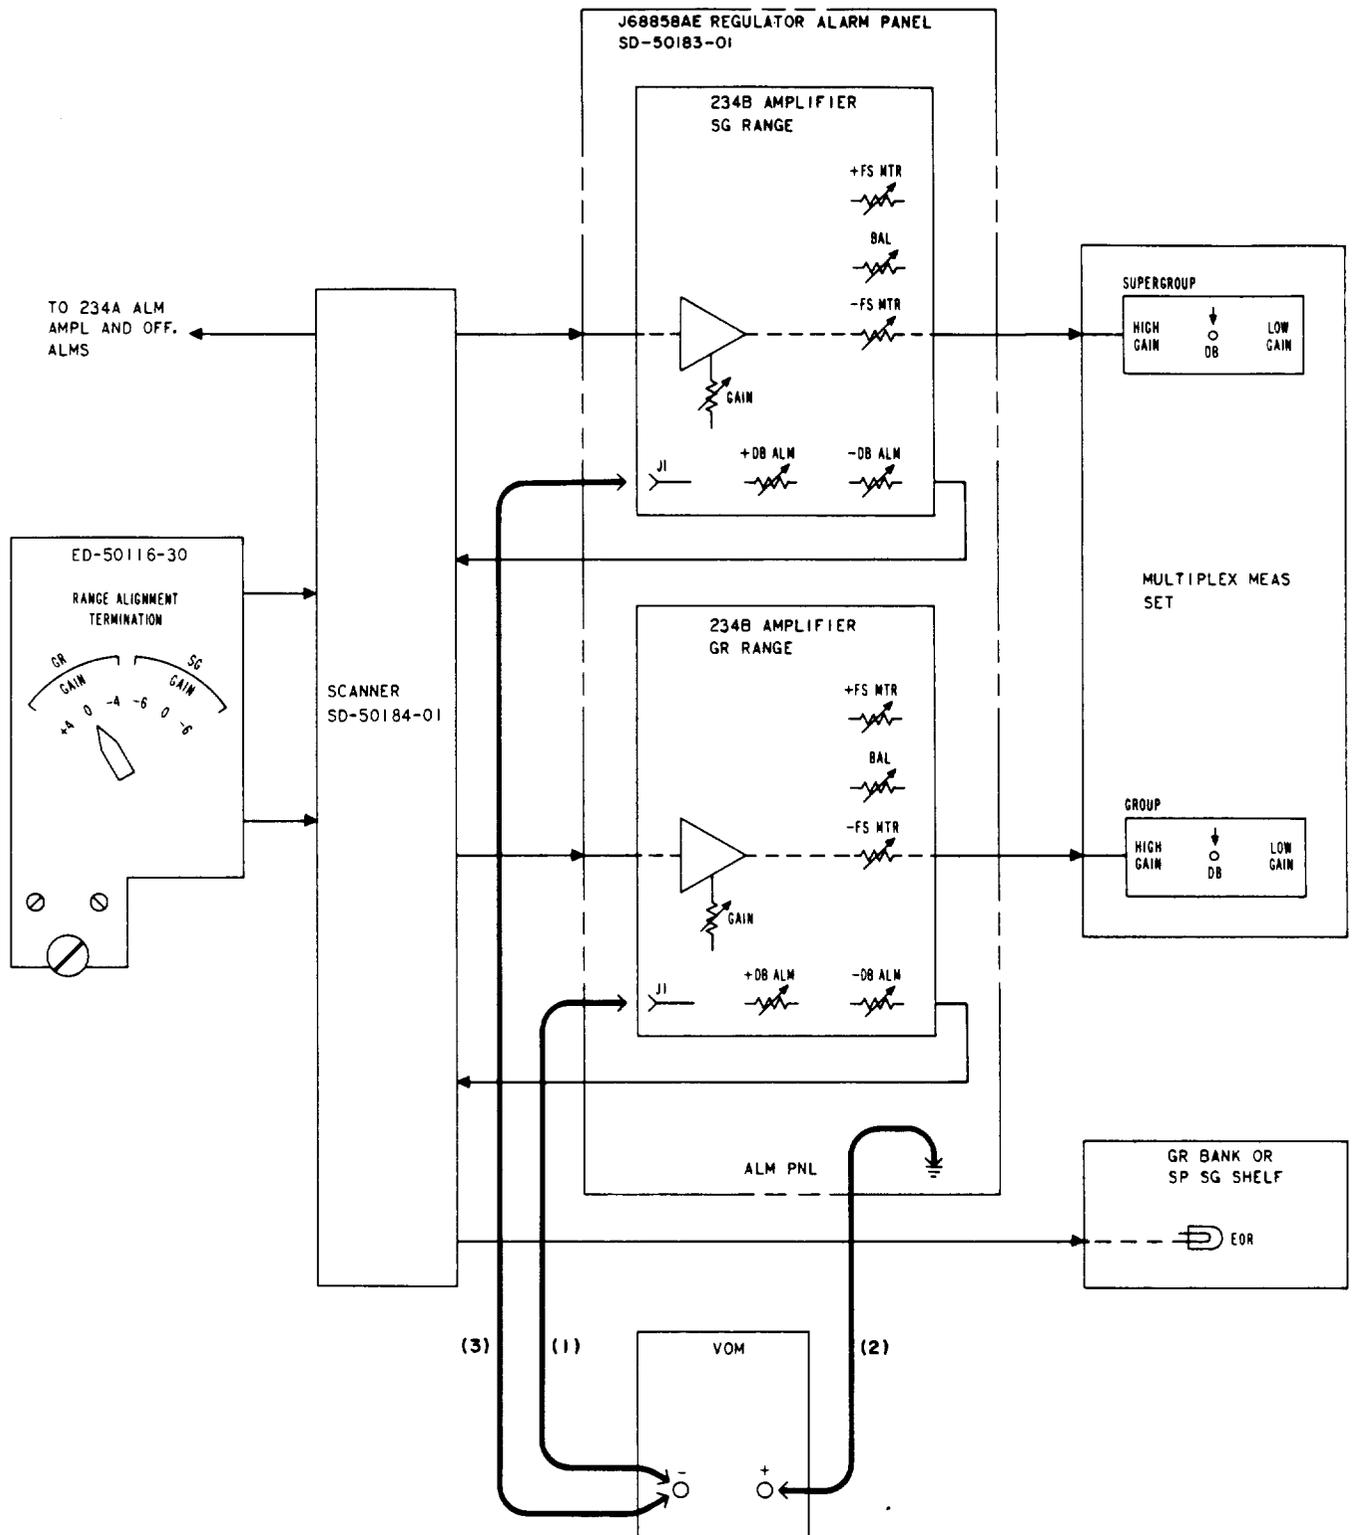

Fig. 1—Gain Adjustment and End-of-Range Alarm Tests—234B Amplifier
- 14 Condition VOM to measure -6 Vdc; make patches (1) and (2), Fig. 1.
24	Remove the 234B SG RANGE amplifier from the regulator alarm panel (Fig. 1). Note: The EOR alarm lamp lights if either the group or supergroup 234B amplifier detects an end-of-range condition.
43	Condition VOM to measure -6 Vdc; make patches (2) and (3), Fig. 1.
45	If the requirement of Step 44 is met, remove patches (2) and (3); proceed to Step 46. If it is not met, adjust the GAIN control on the 234B SG RANGE (Fig. 1) amplifier to meet the requirement; remove patches (2) and (3).